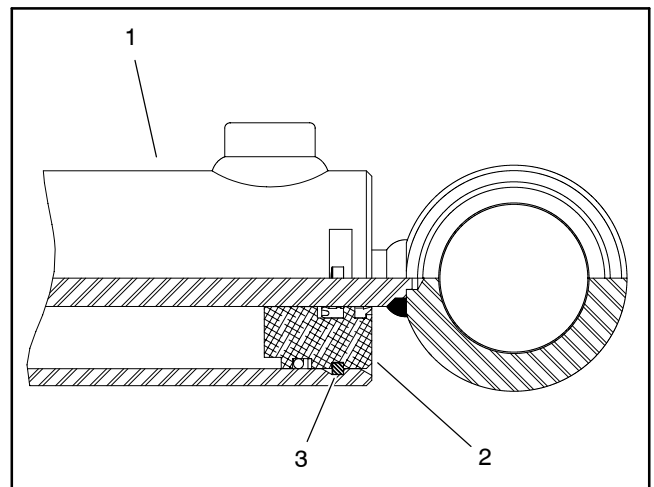

Figure 83
B. On cylinders with a retaining ring (Fig. 83), use a spanner wrench to rotate head clockwise until the edge of the retaining ring appears in the barrel opening. Insert a screwdriver under the beveled edge of the retaining ring to start the retaining ring through the opening. Rotate the head counter-clockwise to remove retaining ring from barrel and head.
B. On cylinders with a retaining ring (Fig. 83), align retaining ring hole in the head with the access slot in the barrel. Insert the retaining ring hook into the hole and rotate head clockwise until the retaining ring is completely pulled into the barrel and the ring ends are covered.